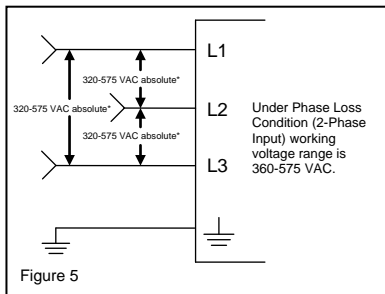

Figure 5
5.1. Input connection (Fig. 1, Fig. 5)
Use L1, L2, L3 and PE connections of input terminal connector to establish the 3 x 400-500 VAC connection. Fig. 5 shows the connection to the various network types.